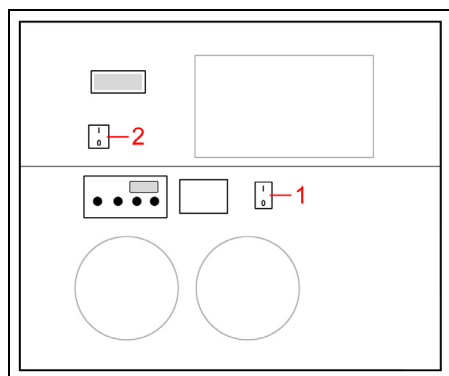

Figure 67: Cooling and supply unit for the "InSight DeepSee" infrared laser
1. Switch on the cooling for the infrared laser (**see Figure 67, item 1**). The cooling requires approx. 4 hours to regulate the temperature of the infrared laser.
2. After 4 hours, switch on the supply unit for the infrared laser (see **Figure 67**, item 2).